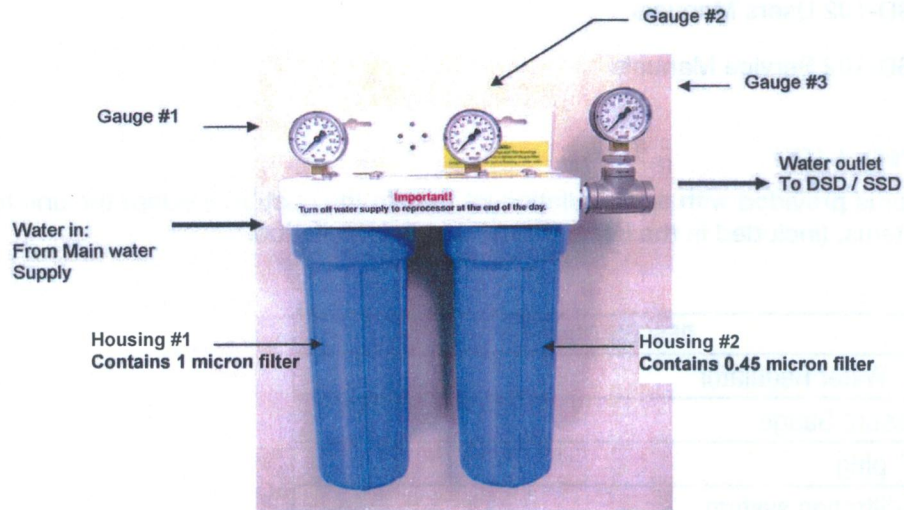

Figure 1. Filtration System
- Install the incoming water pre-filter system supplied with the reprocessor (see Figure 1). The user must have easy access to the filters. There should be enough room below the filter assembly to easily remove the housings and change the filters.
NOTE: This unit is piped and assembled as shown with the outlet on the right side and gauge #1 (incoming water pressure) on the left (figure 1).